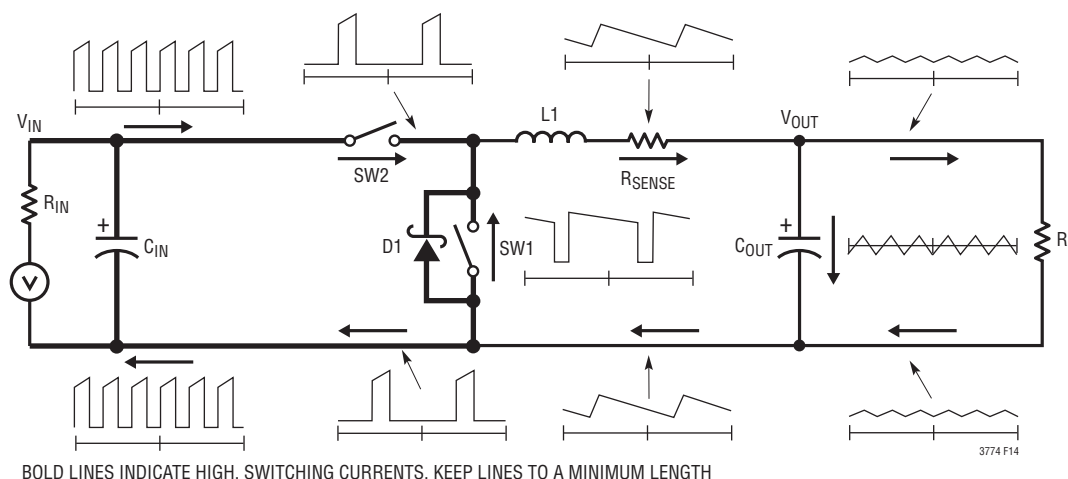

Figure 14. Branch Current Waveforms
When laying out the printed circuit board, the following checklist should be used to ensure proper operation of the IC. These items are also illustrated graphically in the layout diagram of Figure 14. Check the following in the PC layout:
- The 47pF to 330pF ceramic capacitor between the ITH pin and signal ground should be placed as close as possible to the IC. Figure 14 illustrates all branch currents in a switching regulator. It becomes very clear after studying the current waveforms why it is critical to keep the high switching current paths to a small physical size. High electric and magnetic fields will radiate from these *loops* just as radio stations transmit signals. The output capacitor ground should return to the negative terminal of the input capacitor and not share a common ground path with any switched current paths. The left half of the circuit gives rise to the *noise* generated by a switching regulator. The ground terminations of the synchronous MOSFET and Schottky diode should return to the bottom plate(s) of the input capacitor(s) with a short isolated PC trace since very high switched currents are present. External OPTI-LOOP® compensation allows overcompensation for PC layouts which are not optimized but this is not the recommended design procedure.